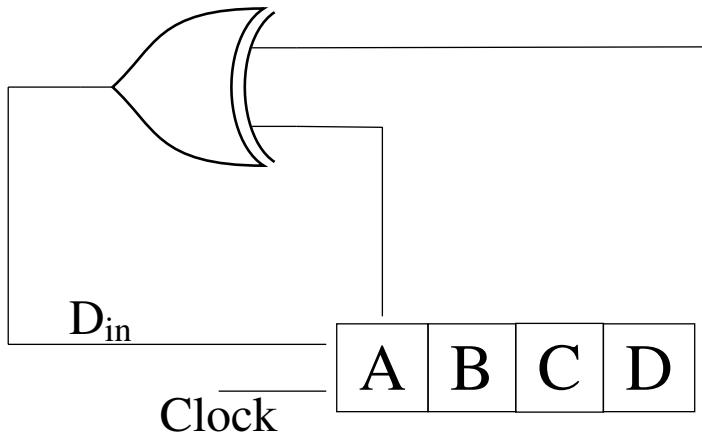

Fig. 5.17
17. A 4-bit shift register circuit configured for right-shift operation, i.e. $D_{in} \rightarrow A, A \rightarrow B, B \rightarrow C, C \rightarrow D$, is shown in Fig. 5.17. If the present state of the shift register is $ABCD = 1101$, the number of clock cycles required to reach the state $ABCD = 1111$ is _____.